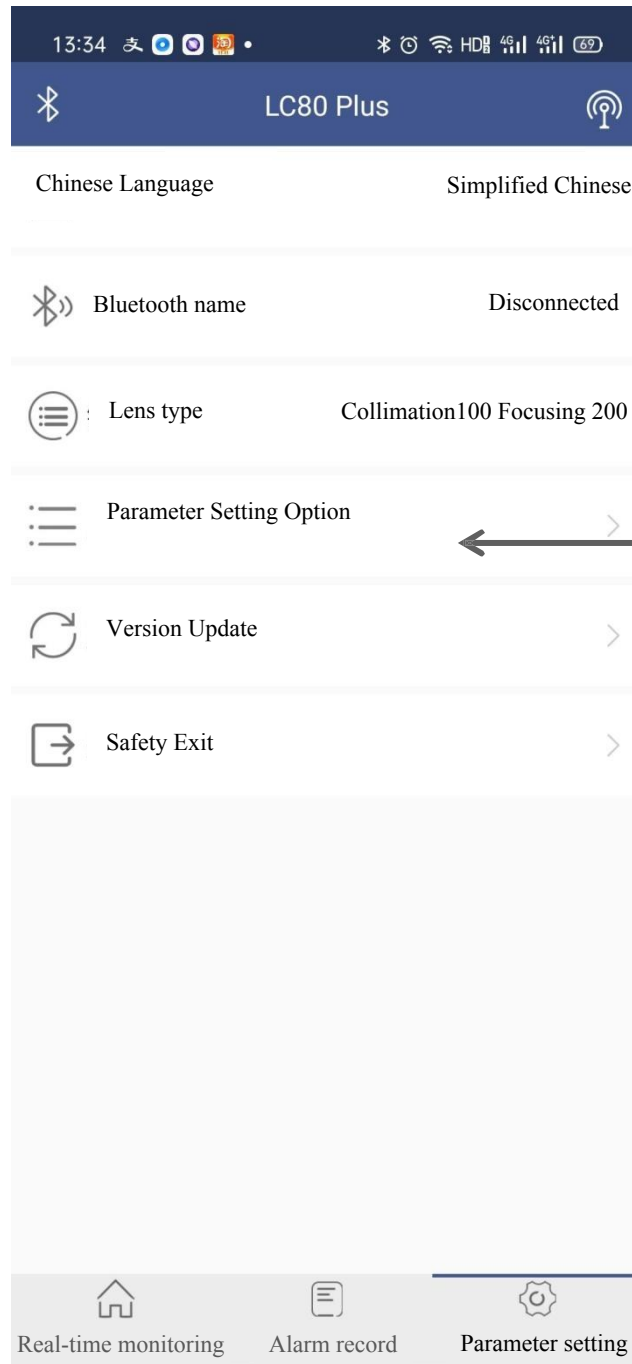

Figure 3.2
① You can set the temperature on the APP and set different temperature thresholds according to the actual applications. Click "Parameter Setting" and input the password of "85225225" to enter the temperature setting interface, as shown in Figure 3.2.